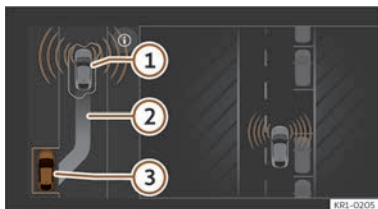
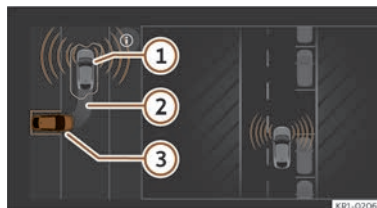

Fig. 143 On the infotainment system display: parallel parking position.
Fig. 144 On the infotainment system display: parking bay parking position.
>>> Fig. 143, >>> Fig. 144
- ① Own vehicle.
- ② Indication showing the proposed parking manoeuvre.
- ③ Parking space detected.
- Look at the display on the infotainment system's screen to see if the space has been detected as "appropriate" and if the correct position for parking has been reached >>> Fig. 143, >>> Fig. 144. Stop the vehicle and follow the instructions shown on the infotainment screen.